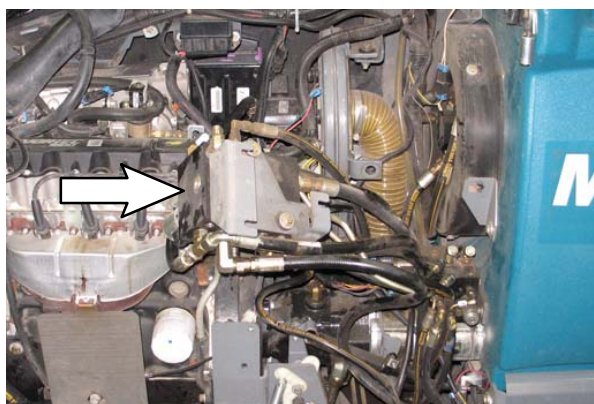

FIG. 6
5. Lift the scrub valve assembly up from the hardware and away from the solution tank. (Fig. 6)